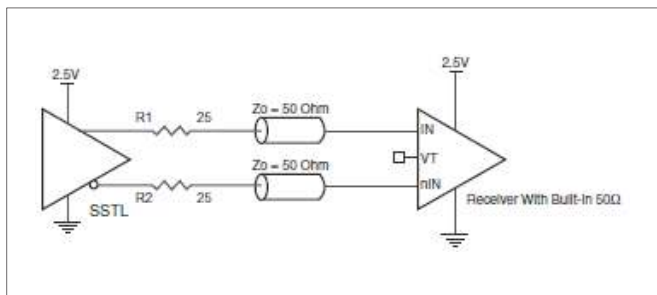

FIGURE 1E. HiPerClockS IN/nIN INPUT WITH BUILT-IN 50Ω TERMINATIONS DRIVEN BY AN SSTL DRIVER
- Power Dissipation at built-in terminations: Assume the input is driven by a 2.5V SSTL driver as shown in Figure 1E and estimated approximately 1.75V drop across IN and nIN.